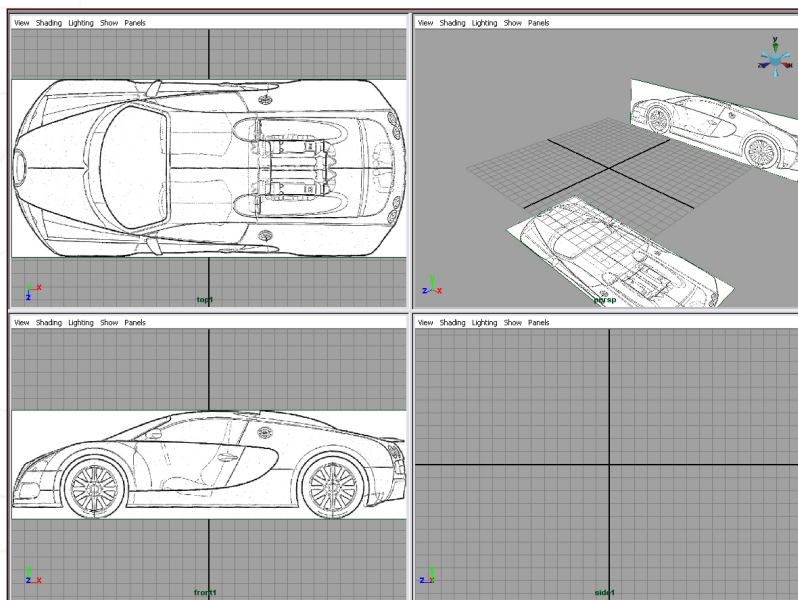

Fig 03
3. Bear in mind that unless you rotate the top image in Photoshop, your 'Front' view will actually be displaying the side of your car. This is nothing to worry about (Fig03). Also note that the 'Side' view will need to display both the front and back images of the car.